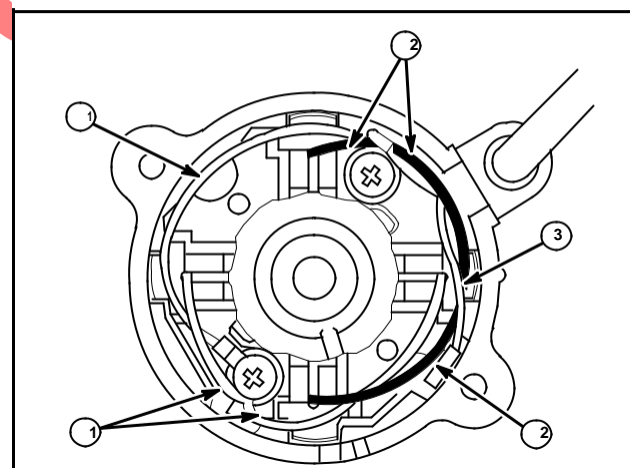

Fig. 78
1. Assemble wiring in commutator end cap for 120 volt AC motor as shown in Fig. 78: white (1), black (2), green (3).